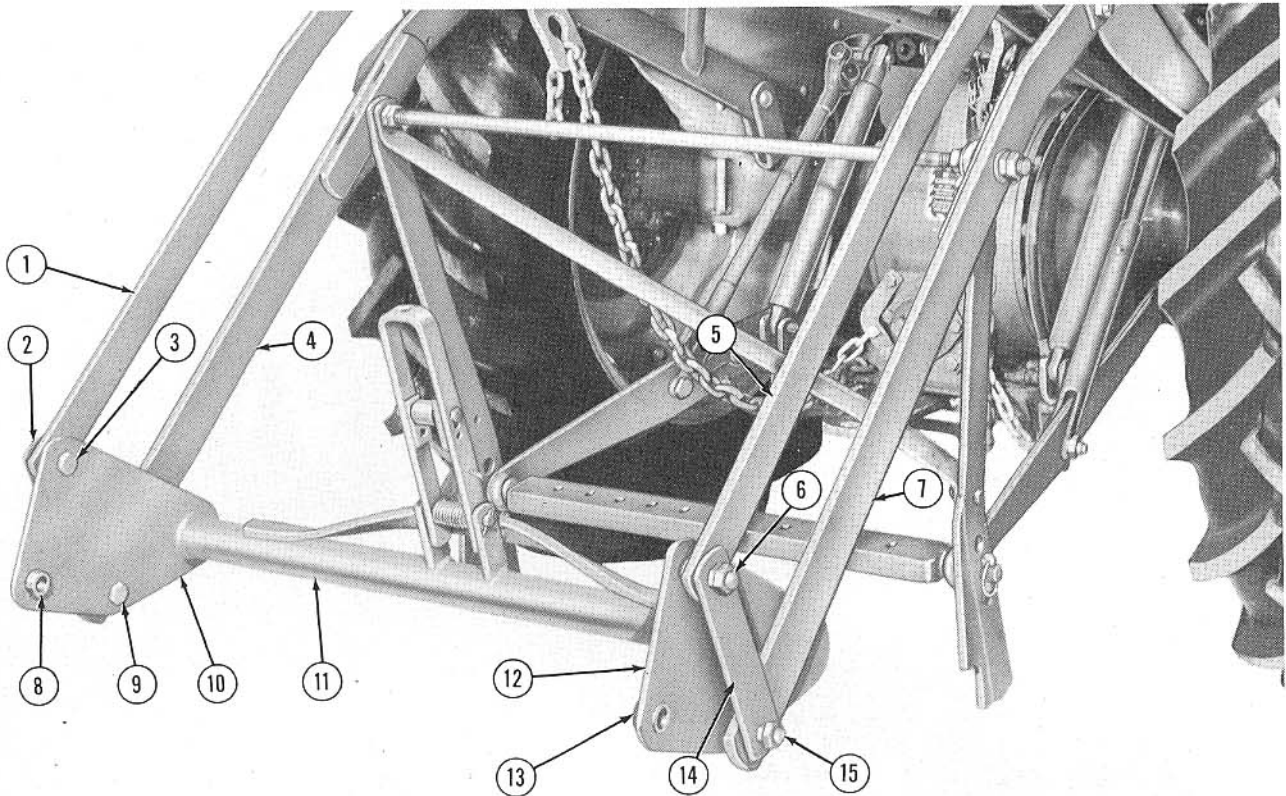

Figure 7
- a. Position the bucket cradle assembly (11), Figure 7, on the ground between the lower control arms (4) and (7) as shown.
- b. Insert the $\frac{5}{8}$ " x $2\frac{1}{2}$ " bolts (9) and (15), Figure 7, through the lower rear hole in each bucket cradle side plate (10) and (12), place a $\frac{13}{16}$ " x $\frac{7}{8}$ " spacer on each bolt and lubricate the spacers with gun grease.
- c. Push the bolts (9) and (15), Figure 7, through the hole in the lower control arms (4) and (7), place the lower locking links (2) and (14) on the bolts and secure with nuts and jam nuts as shown.
- d. Insert the $\frac{5}{8}$ " x $2\frac{1}{2}$ " bolts (3) and (6), Fig-
- e. Push the bolts (3) and (6), Figure 7, on through the lower hole in the upper control arms (1) and (5) and through the free end of the lower locking links (2) and (14). Secure each of the bolts (3) and (6) with a nut and jam nut as shown.
- Place a $1\frac{3}{16}$ " x $\frac{7}{8}$ " bearing inside the bushings (8) and (13), Figure 7, in each bucket cradle side plate. Coat the bearings with a good grade of gun grease.